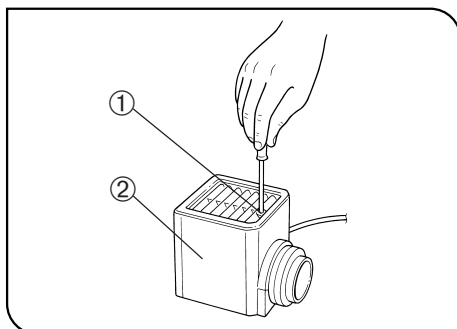

Fig. 35
1 Installing the Bulb (Figs. 35 - 37)
5. Slide the lamp housing cover onto the housing base from the above. Tighten the clamping screw ① while pressing downward on the cover. (Fig. 35)